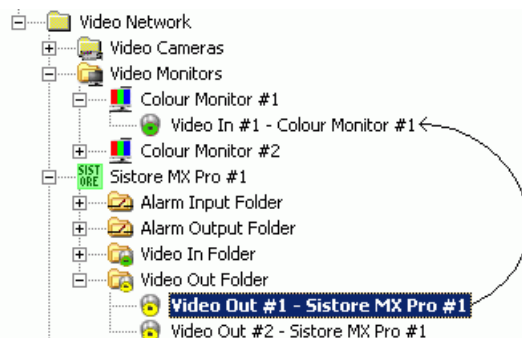

Fig 22 Connecting SISTORE to monitors
6. Drag and drop the **Video Out** signal to the monitor **Video In** node (Fig 22).